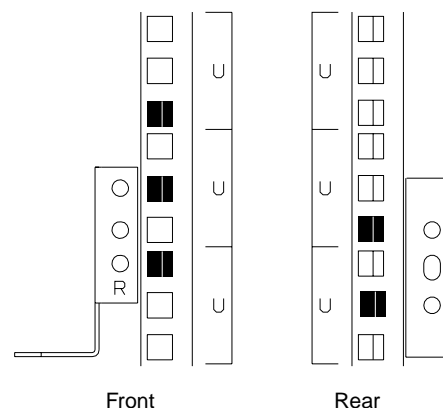

Figure 8. Front and rear flanges
1. Use Figure 8 to determine the appropriate rack-mounting holes for installing cage nuts or clip nuts to secure the NAS EXP rails. From left to right, the illustration shows the front and rear rack-mounting flanges, respectively.